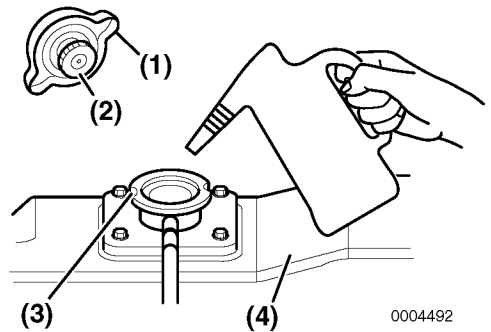

Figure 18
3. Pour coolant slowly into reservoir (Figure 18, (4)) to avoid air bubbles. Fill until coolant overflows from the filler port.
- Align filler cap tabs (**Figure 18, (2)**) with filler port notches (**Figure 18, (3)**) and tighten filler cap (**Figure 18, (1)**) firmly.